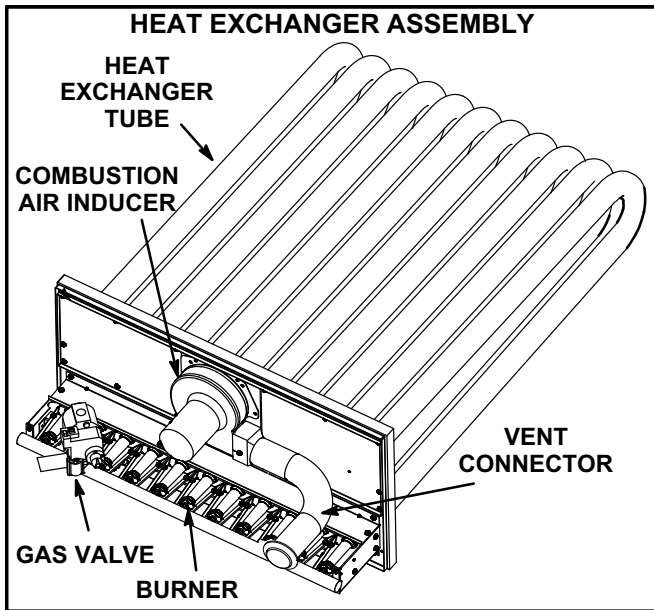

FIGURE 34
- 3- Remove and retain screws securing combustion air inducer to flue box. Remove vent connector. See figure 34.